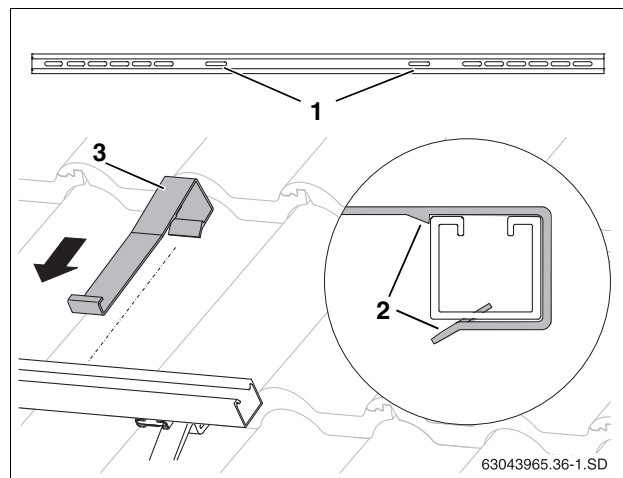

Fig. 31 Attaching collector hanger
- Install the collector hanger (Fig. 31, [3]) at the innermost slotted holes (Fig. 31, [1]) on the lower horizontal rails until it snaps into place (Fig. 31, [2]).